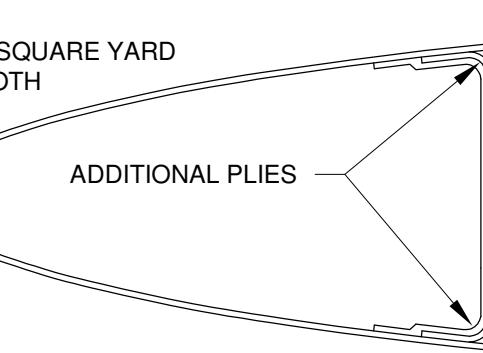

FIGURE 4: FINAL LAY-UP
Step 10: Lay up additional layers of glass fabric reinforcement plies to the inner face and edges as shown in Figure 4. Cleco the HS-910 Horizontal Stabilizer Tip fairing back onto the Horizontal Stabilizer while it cures. After the glass has cured trim off the extra overhanging glass even with the aft edge of the tip fairing.